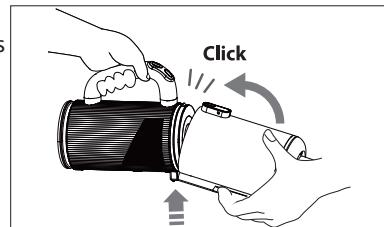

Fig. 22 – Attaching the dust container
- ▶ Carefully push the dust container upwards until you hear it click into place (**see Fig. 22**).